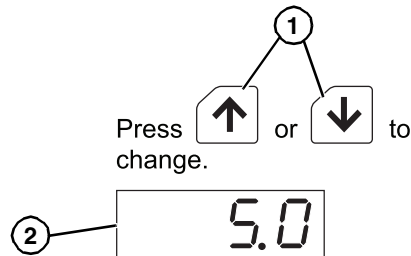

Figure 31
8. Press up or down (**Figure 31, item 1**) to change the deceleration time (e.g., 5.0) (**Figure 31, item 2**). Pressing and holding the key for 3 seconds or more will increase or decrease the value successively.